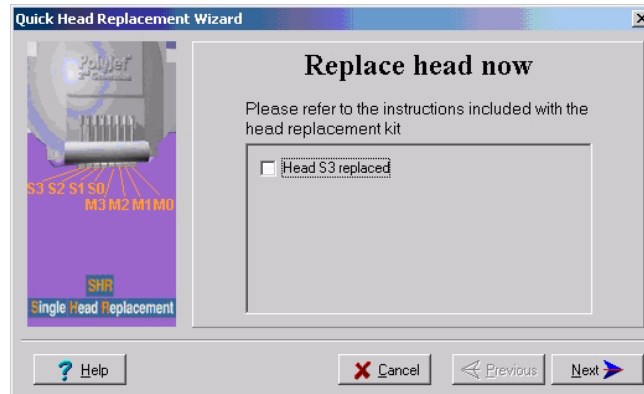

Figure 7-38:Replace the defective head when this screen appears
21. In the *Replace Head Now* screen (see figure 7-38 on page 7-27), select the check box to confirm that the head has been replaced, and click **Next**.